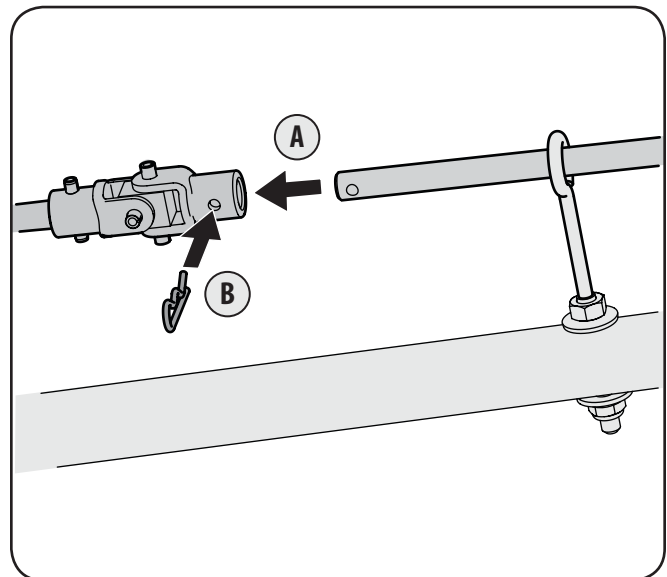

Figure 3-6
2. Secure the upper chute crank rod (A) to the joint block on the lower chute crank rod with the cotter pin (B) provided. See Fig. 3-6.